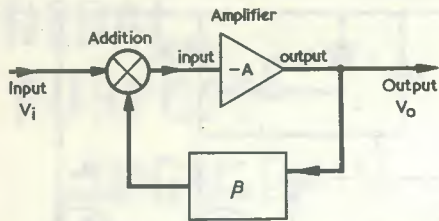

Fig. 4. The basic block diagram demonstrating the effect of negative feedback
Gain and d.c. conditions are set by negative feedback from output (3) back to the inverting input (1), and we can apply our signal to (1) to obtain an inverting amplifier or to (2) for a non-inverting amplifier, as we require. These points are dealt with in the application details, given later. The use of negative feedback to give a predictable mid-band gain and to reduce distortion is well known, and the general management is shown in Fig. 4.